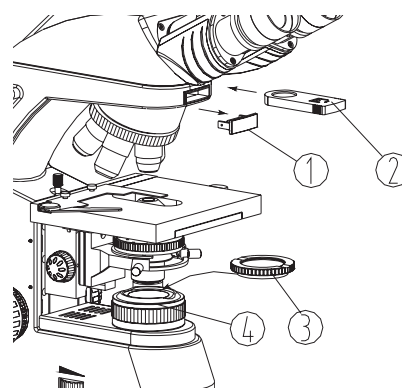

Figure 9.
3. Polarizer (MS1199) and Analyzer (MS1200). Use these two accessories together for simple polarizing (see Figure 9). Remove analyzer cover ① from the arm of the microscope, and insert the analyzer face up. Place the polarizer on the field diaphragm groove ④. Rotate the polarizer ③ to change the orthogonal status of polarization through anisotropic materials.